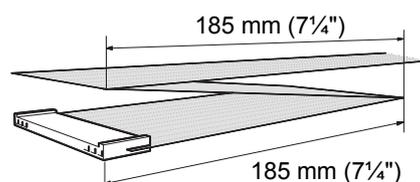

Figure 6-153 X-flex cable for instruments size 100
- 1 For instruments size 100, fold the X-flex cable according to figure 6-153 –on the end where it will be connected to the PosAda (new version) or to the PosID2 CU board (older version).